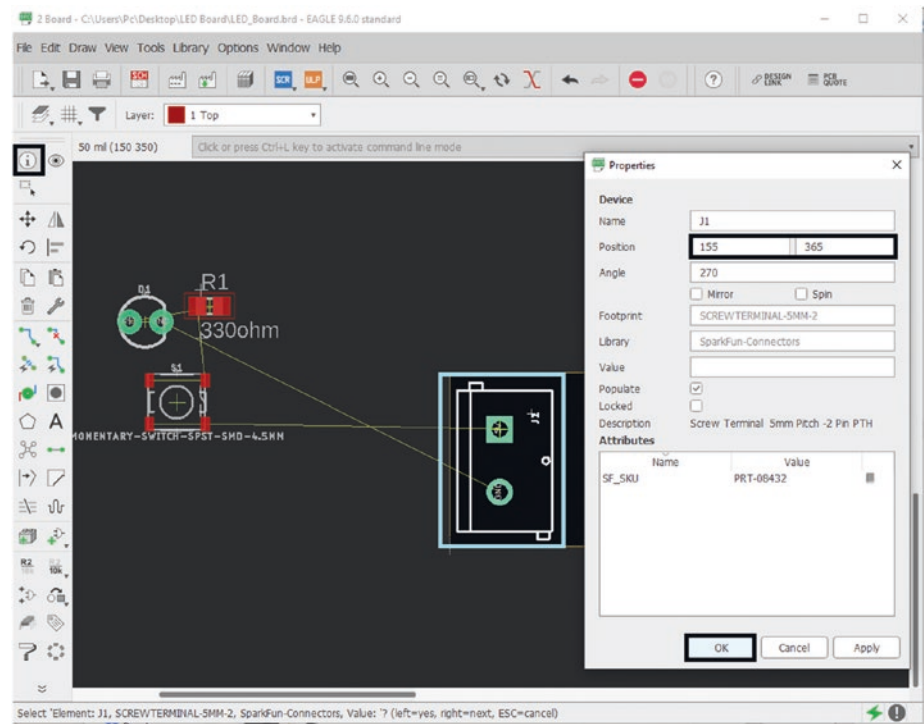

Figure 5-64. Move terminal block
13. Rotate the terminal block and move it onto the PCB. You can use the “Info” button and type in the position “155” and “365,” or you can move it with the mouse and hold the Alt Key to get more precision. See Figure 5-64.